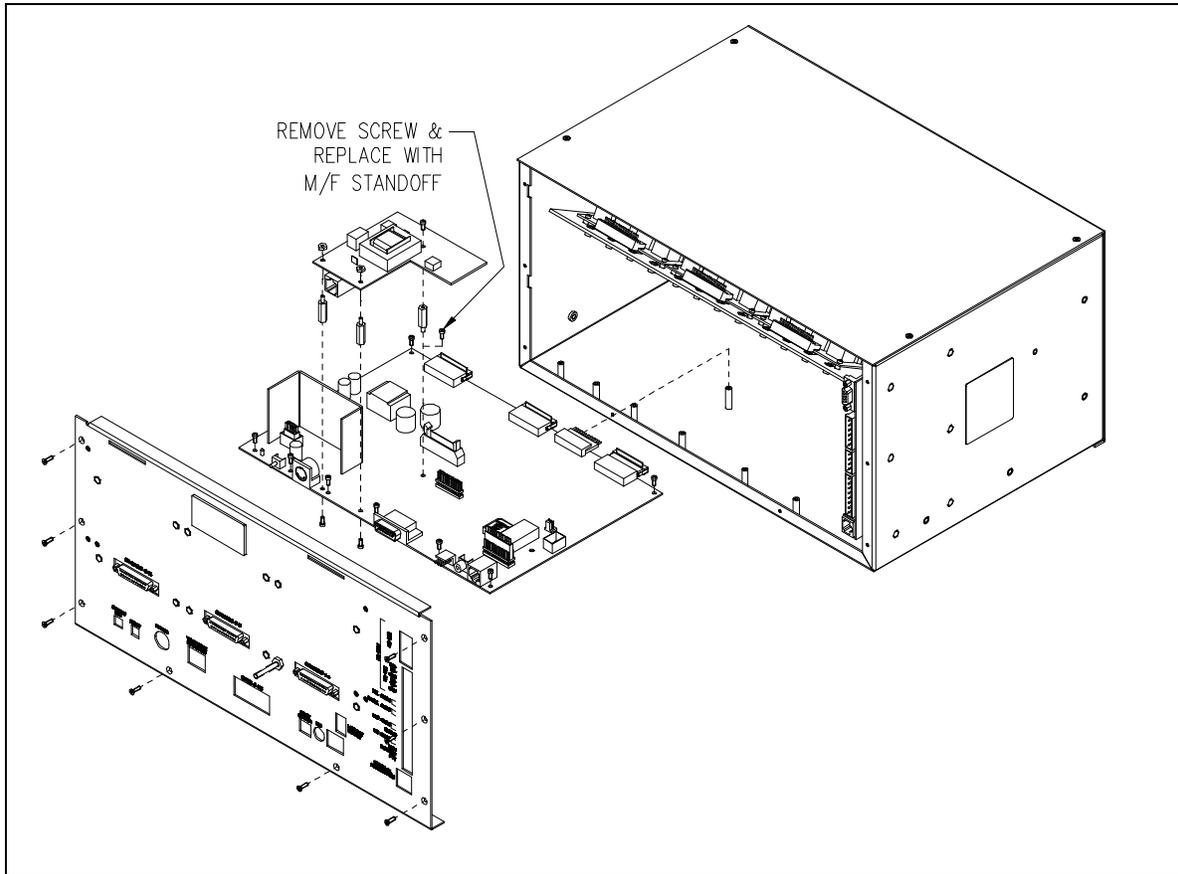

Figure 3.
- Remove the 8 screws securing the rear panel. Gently pull the rear cover from the housing and disconnect the ribbon cables (SLV-CBL-P) attached to the surge suppression PCBA. Lay the rear panel flat. See Figure 3. (Do not install the phone PCBA at this point.)
- Remove the screw in the center of the main control PCBA. Screw in one of the supplied #4-40 male/female standoffs. See Figure 3.
6. Attach the remaining two standoffs in the two open holes highlighted by circles on the main control PCBA. Place the threaded side through the holes and attach the supplied #4-40 nuts to the underside. See Figure 3.